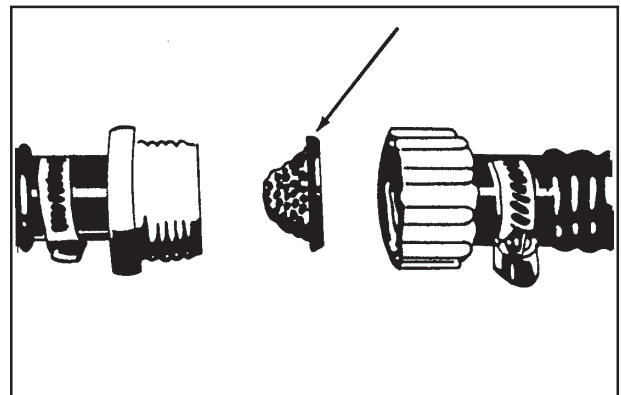

Figure 13
4. Check and clean the filter screen in the solution hose. To clean the screen, follow this procedure: (See figures 13 and 14 page 24)